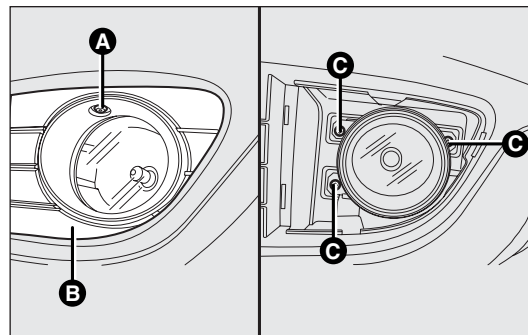

fig. 144
- loosen the screw A-fig.144 and remove the protection template B;